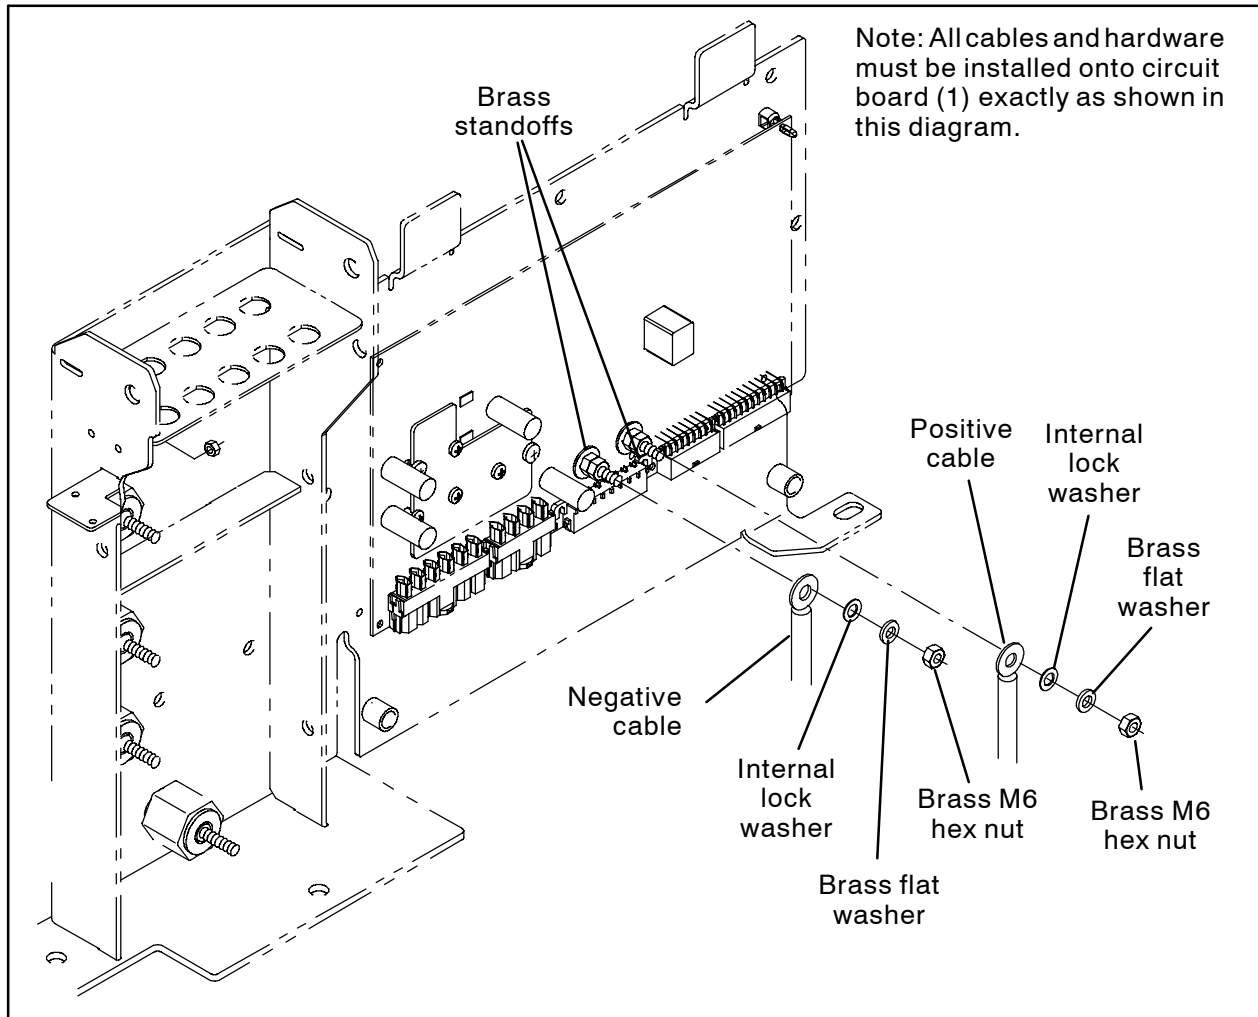
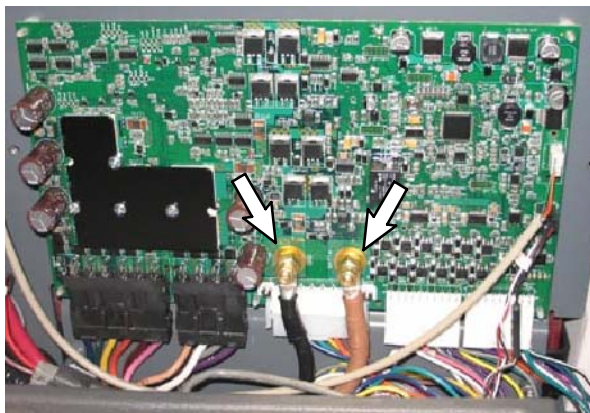

FIG. 5
FIG. 6
12. Check to be sure the brass standoffs on the circuit board (1) are threaded tightly into the circuit board. Refer to Fig. 5.
13. Connect the positive and negative cables to the control board (1). Torque the brass M6 hex nuts between 4.07 to 4.52 Nm (3 ft. lbs to 3.3 ft. lbs). **Do Not** over tighten the M6 hex nuts. Refer to Fig. 5 and Fig. 6.
NOTE: The polarity of the positive and negative cables is critical. These cables must be connected to the control board (1) as shown in Fig. 5. The control board could be damaged if the positive and negative cables are not connected as shown.
NOTE: Install cables and hardware onto the circuit board exactly as shown in Fig. 5. Use an open end wrench to hold the brass standoffs firmly into place when tightening the brass M6 hex nuts.
14. Install the control board (1) onto the mounting bracket. Refer to Fig. 5.